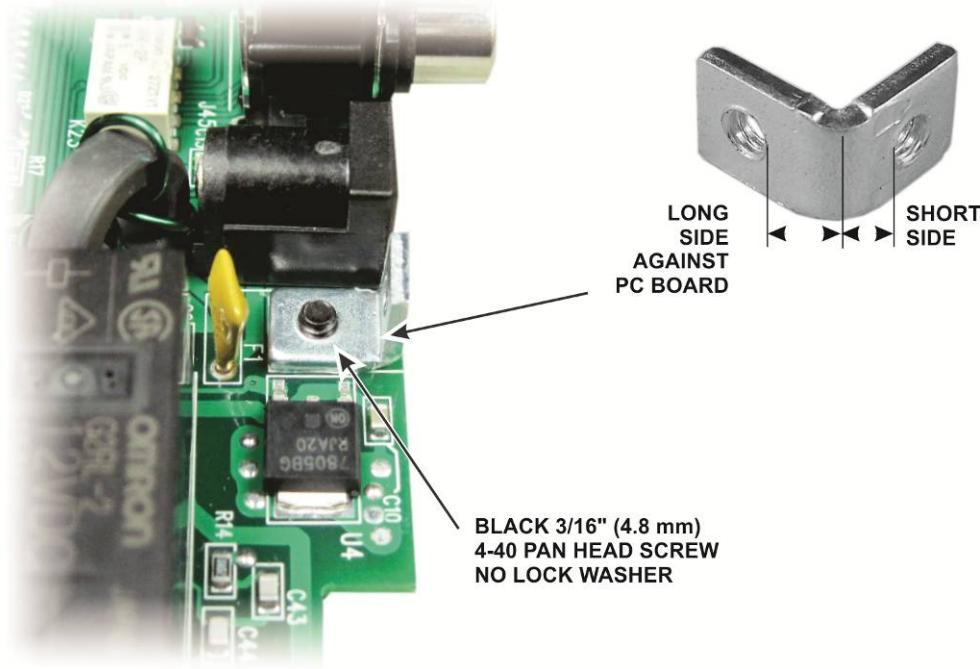

Figure 14. Installing the Angle Bracket.
- Mount the angle bracket at LB1 on the pc board as shown in Figure 14. Note that it has a long and short side. Be sure the long side is against the pc board as shown.